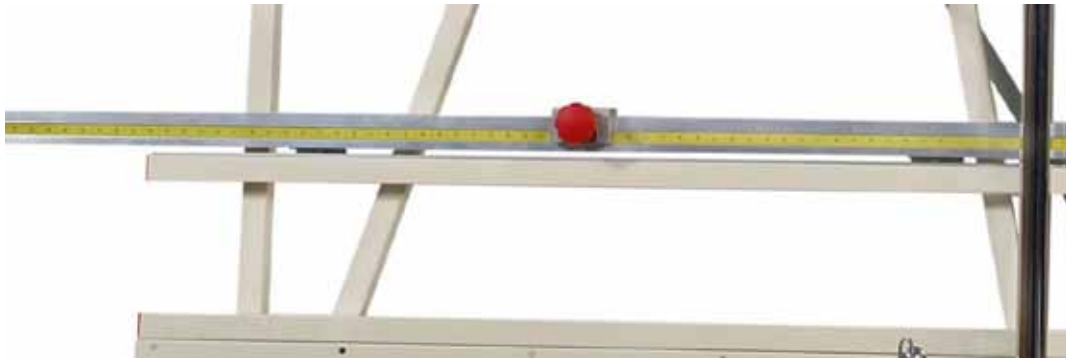

Figure 59: Quick Stop installed
1. Position the stop block at the desired cut length, as shown by the Quick Stop measuring tape, and secure the block with the lock knob (Fig. 59).